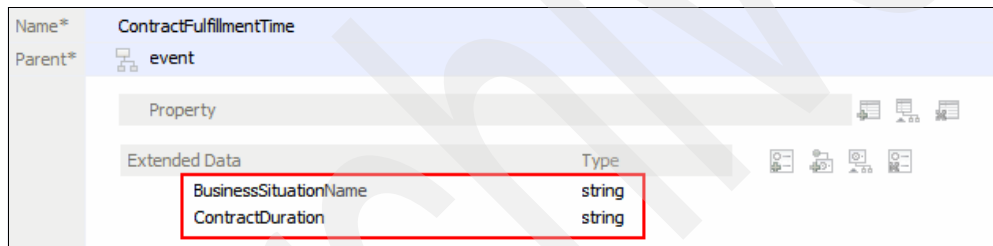

Figure 7-109 `ContractFulfillmentTime` event definition
- c. In the Event Definition Editor, under the Extended Data section (Figure 7-109):